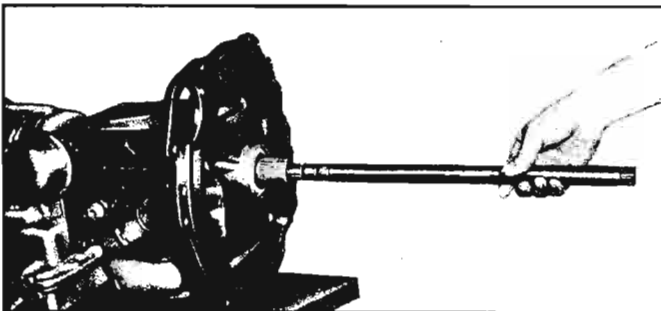

Fig. 6-11—Removing Turbine Shaft
5. Complete removal of Transaxle by removing the attaching bolts and lockwashers securing the differential carrier to the converter housing, then pull the Transaxle unit away from the engine. Remove converter immediately once accessible to prevent its being dropped and damaged and remove turbine shaft (fig. 6-11).